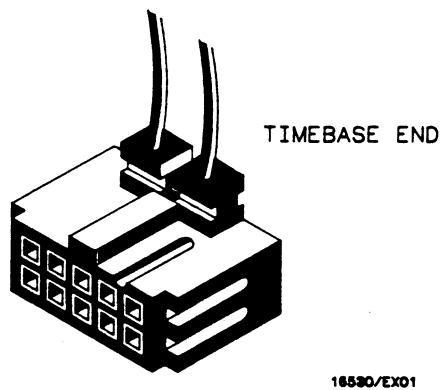

Figure 2-9. Cable End
- g. Install one cable per acquisition card in the correct timebase card connector, making sure that you install the correct end. See figure 2-9.